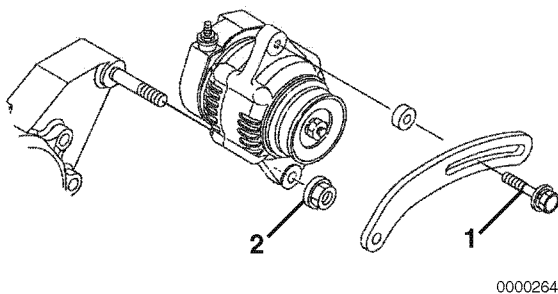

Figure 11-19
1. Position the alternator on the gear case. Loosely reinstall the nut (**Figure 11-19, (2)**) on the gear case stud and the V-belt adjuster bolt (**Figure 11-19, (1)**).